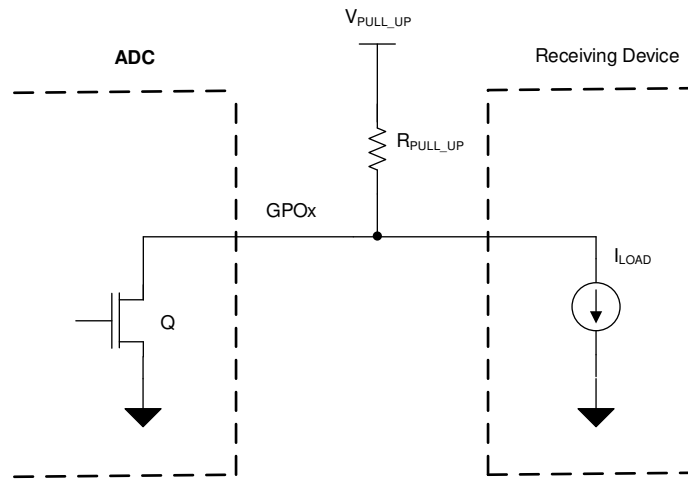

Figure 49. Digital Open-Drain Output
The channels of the TLA2518 can be configured as digital open-drain outputs supporting an output voltage up to 5.5 V. An open-drain output, as shown in Figure 49, consists of an internal FET (Q) connected to ground. The output is idle when not driven by the device, which means Q is off and the pullup resistor,  $R_{PULL\_UP}$ , connects the GPOx node to the desired output voltage. The output voltage can range anywhere up to 5.5 V, depending on the external voltage that the GPIOx is pulled up to. When the device is driving the output, Q turns on, thus connecting the pullup resistor to ground and bringing the node voltage at GPOx low.